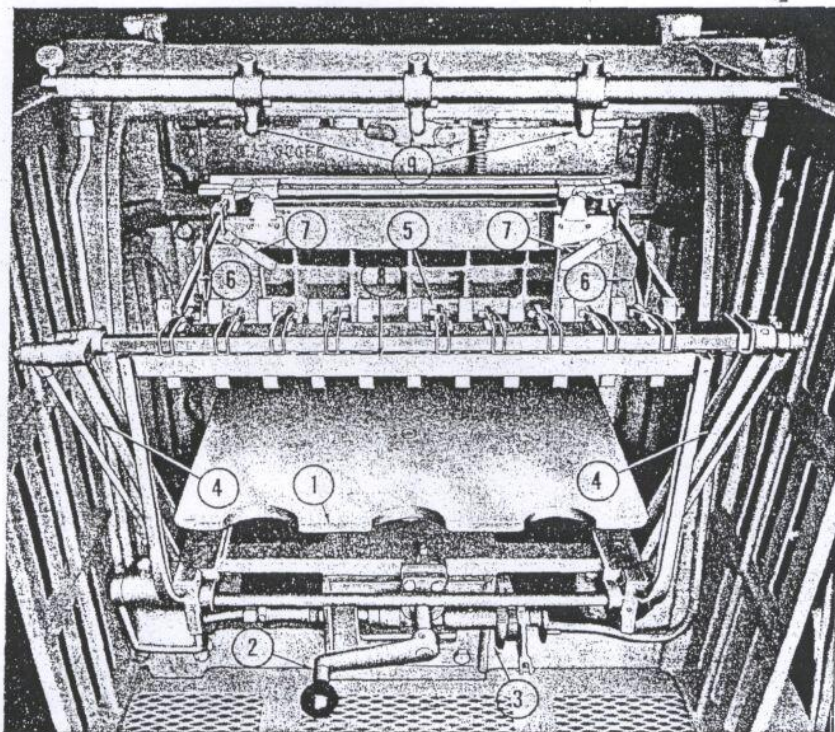

Figure 8—Delivery
f. DELIVERY. (See figure 8.) — The delivery mechanism includes the delivery table and its lowering mechanism, the delivery arms to which are attached the delivery grippers, the delivery stop finger bar and stop fingers, the jogger supporting bar with the side and rear joggers, and the delivery air blast tube and nozzles.